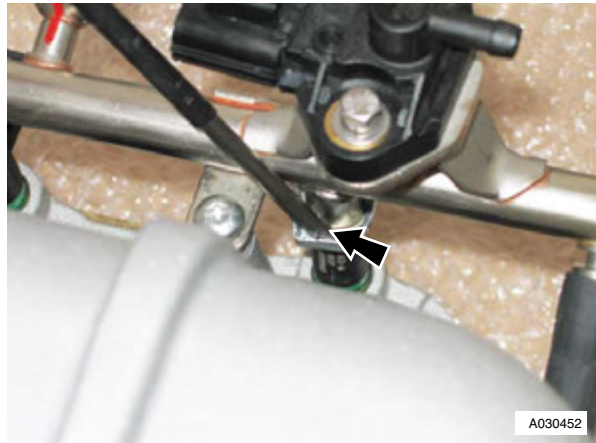

Figure 1
22. Remove Injector to rail clips (see Figure 1).